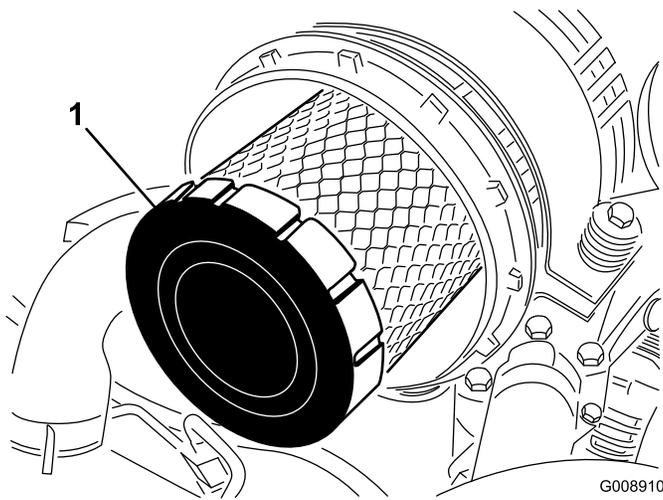

Figure 44
4. Remove and replace the primary filter (Figure 44).